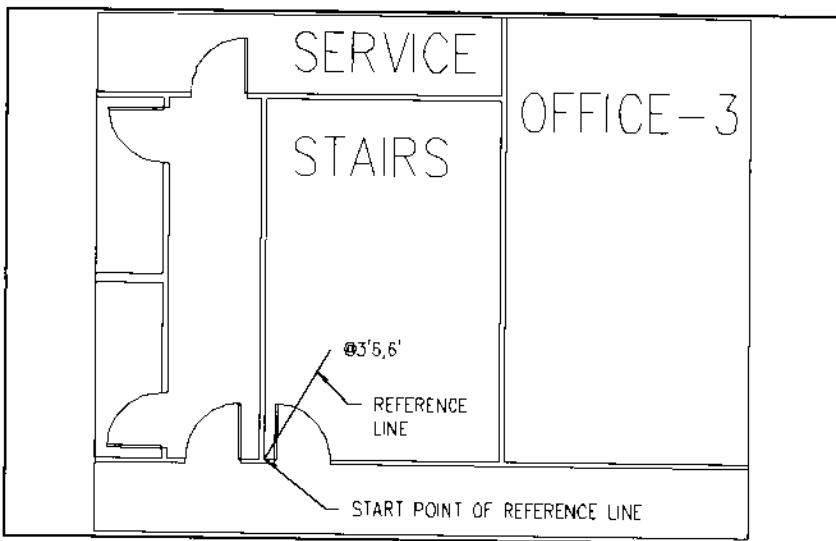

Figure 55.
coordinate, as shown in Figure 55. The LINE command is under the Draw pull-down menu.
- > From point: INT of [bottom left corner of STAIRS space as shown in Figure 55]